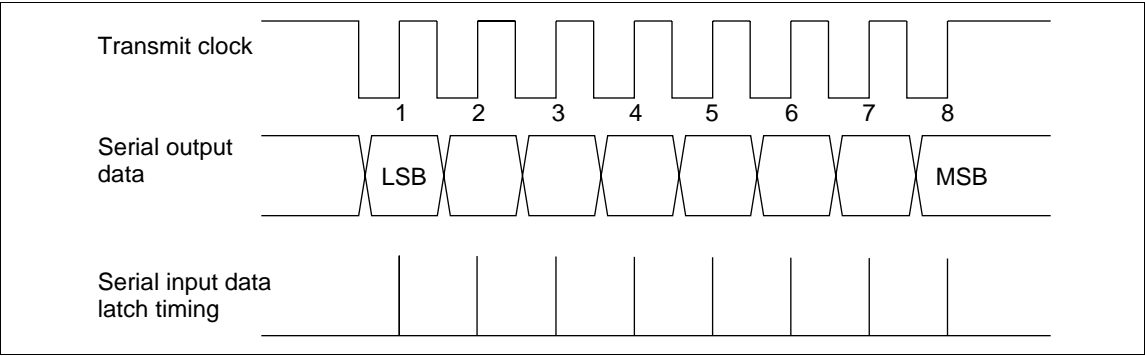

Figure 59 Serial Interface Output Timing
- **STS wait state:** The serial interface enters STS wait state by MCU reset (00, 10 in figure 59). In STS wait state, the serial interface is initialized and the transmit clock is ignored. If the STS instruction is then executed (01, 11), the serial interface enters transmit clock wait state.
- **Transmit clock wait state:** Transmit clock wait state is between the STS execution and the falling edge of the first transmit clock. In transmit clock wait state, input of the transmit clock (02, 12) increments the octal counter, shifts the serial data register, and enters the serial interface in transfer state. However, note that if continuous clock output mode is selected in internal clock mode, the serial interface does not enter transfer state but enters continuous clock output state (17).
Writing data in this register is output from the SO pin, LSB first, synchronously with the falling edge of the transmit clock; data is input, LSB first, through the SI pin at the rising edge of the transmit clock. Input/output timing is shown in figure 59.